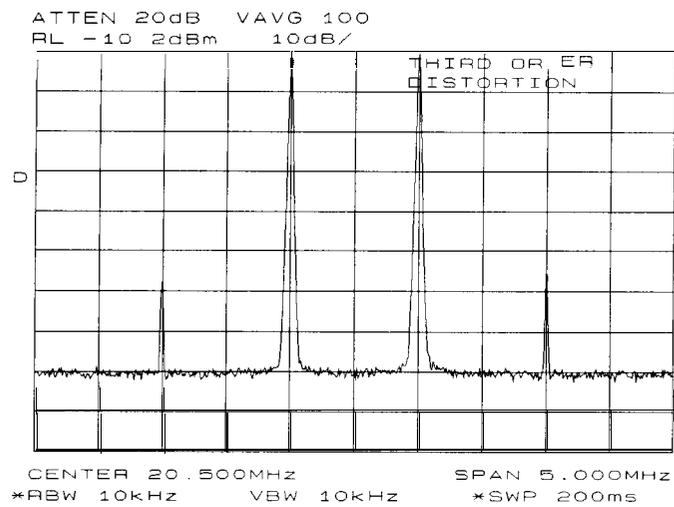

Figure 2-25. Display with Title
- Use the **softkeys** from the screen-title menu and the knob (to choose the letters) to create a title. The title appears in the upper-right corner of the graticule; it can be up to two rows of 16 characters each (see Figure 2-25).